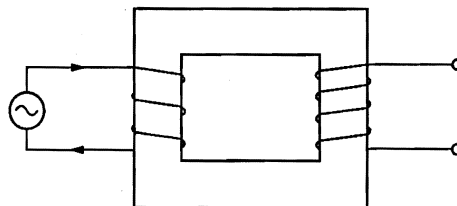

Fig. 9
- 66 Figure 9 represents a simple type of transformer. The coil on the left is connected to an a.c. power source. At the instant shown, the current is at its maximum positive value.
- (a) On Fig. 9, draw the magnetic field pattern set up by the current. [2]